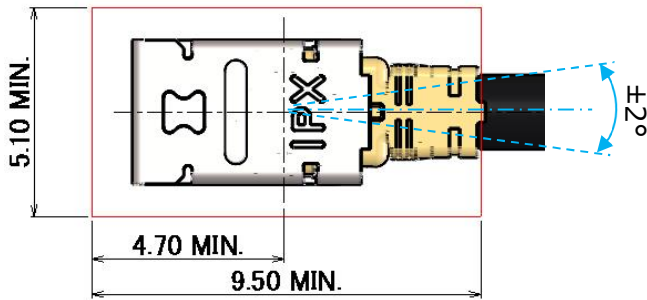
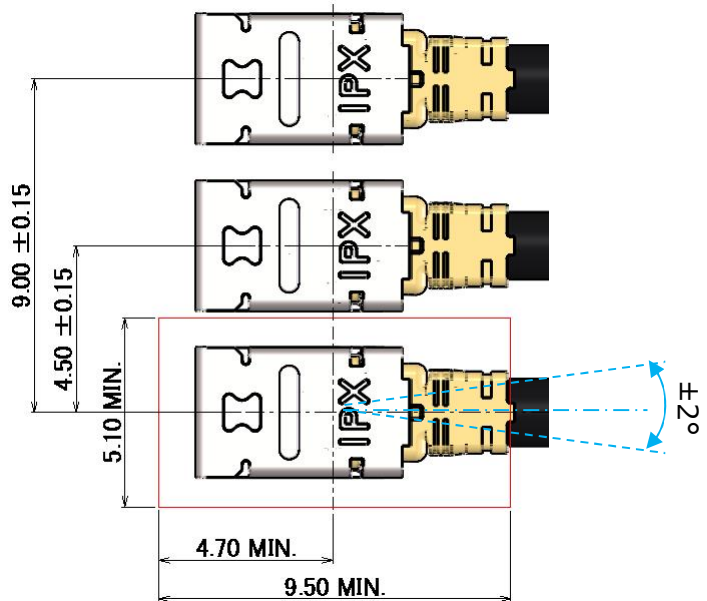

Figure 28
Figure 29
- Secure the space as shown in Figure 28 for the jig operation. Figure 29 is the layout of MHF I LK Harness in pitch 4.5 mm. The 4.5 ± 0.15 mm pitch layout enables jig access.